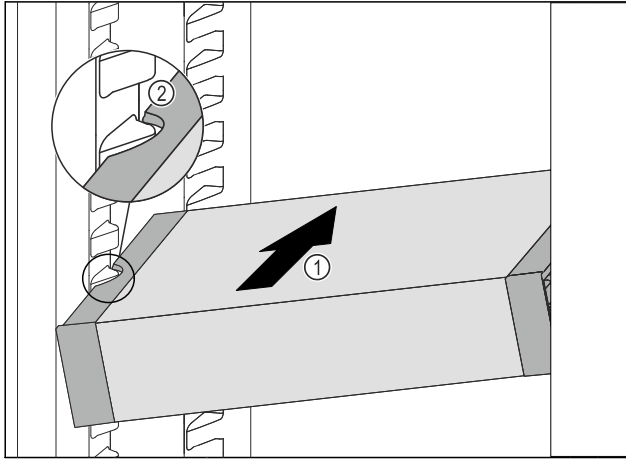

Fig. 82
- ▶ Insert the VarioSafe into the fridge section at an angle Fig. 82 (1) until the recesses in the side Fig. 82 (2) of the VarioSafe are at the level of the support rib in the fridge section.